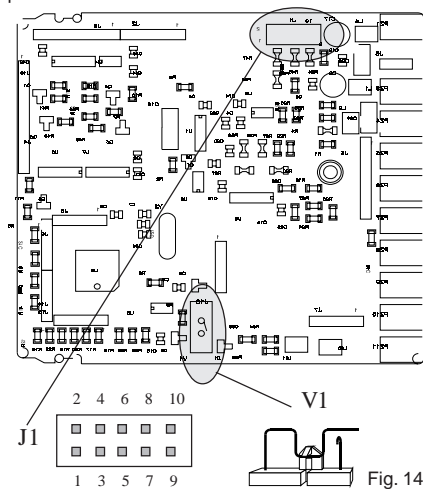

Fig. 14
- 2) Set the dip switch V1 to the open condition (see fig. 14).